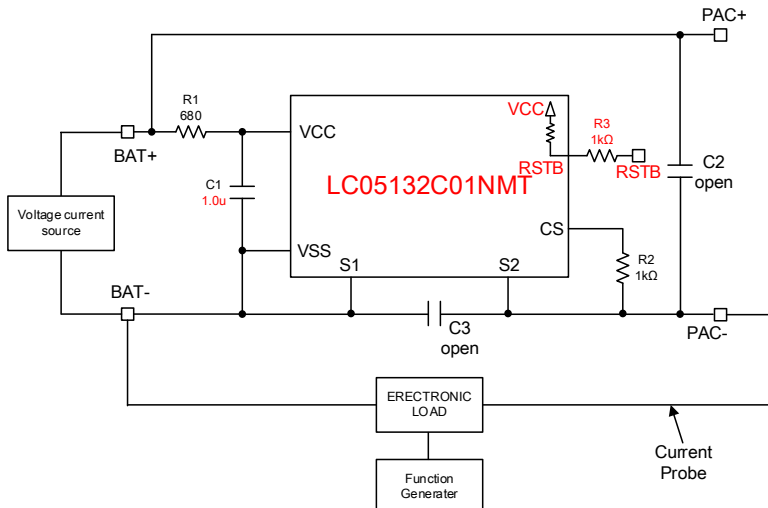

Figure2. LC05132C01NMTGEVB Recommended Test Set Up for Charge/Discharge Current detection
1. Connect **LC05132C01NMTGEVB** like upper Figure2.